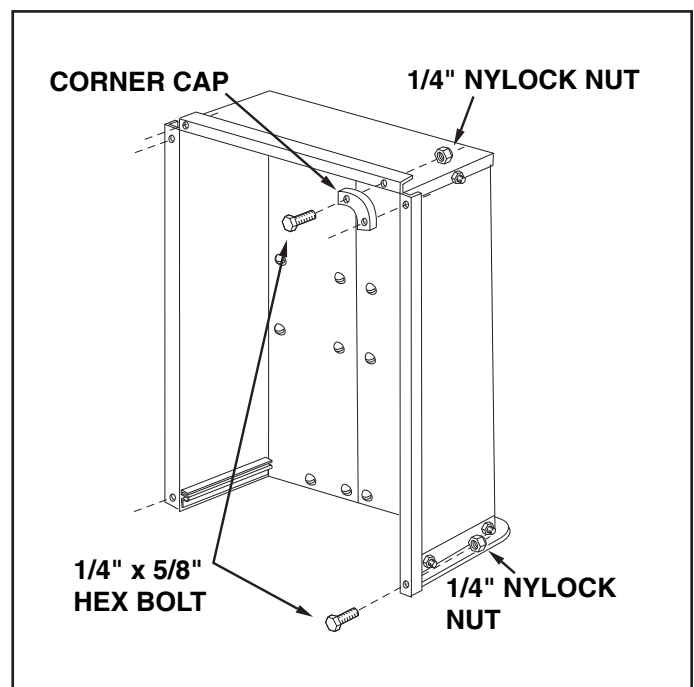

FIGURE 8
12. Assemble the two corner caps to the front corners of the cart using four 1/4" x 5/8" hex bolts and 1/4" nylock nuts. Also assemble two 1/4" x 5/8" hex bolts and 1/4" nylock nuts to the two rear corners of the cart. **TIGHTEN**. See figure 8.